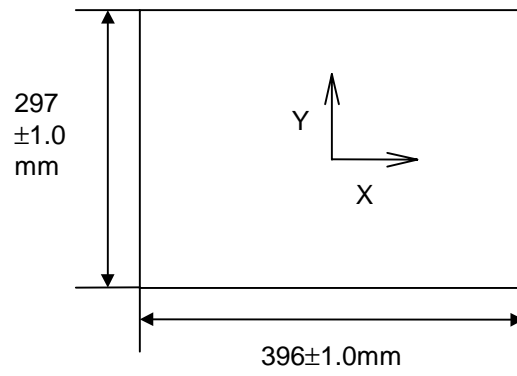

Fig.10-6 The value of Convergence
2) Measure misconvergence, by using Fig.10-6 standard mentioned below.